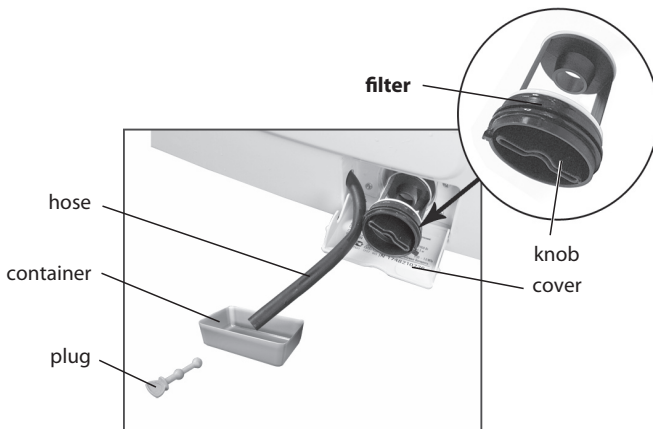

Figure 21
9.4.2 Before cleaning water is to be drained from the pump. For this purpose the filter cover is to be opened in accordance with figure 21 for water collection. Height of the vessel must be below the hose outlet hole from the machine. A plug is to be removed from the hose and water is to be drained to the vessel. In case of a big water volume in the machine tank discharge is to be carried out several times.